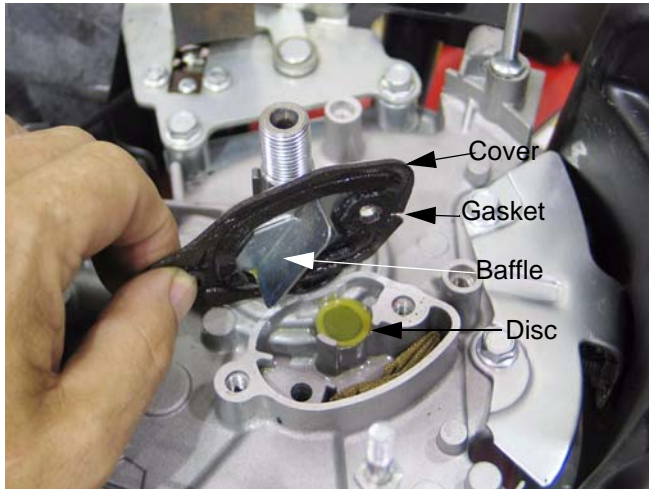

Figure 5.9
3. The cover and gasket can be separated from the chamber. See Figure 5.9.